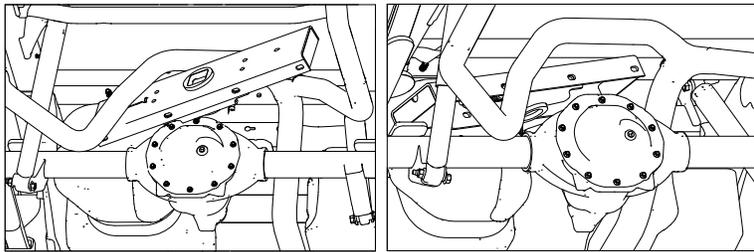

Figure B3: View looking up over axle. Figure B4: View looking up over axle.
2. **Install center section.** Starting behind the differential under the truck, hold the center section so that the top of the center section is facing towards the back of the truck and the latch pin handle is on the driver side, see Figure B3. Position the center section over the differential and axle and move it towards the driver side between the frame and the axle. Move the center towards the driver side far enough that the passenger side of the center can be lifted up past the exhaust, see Figure B4. Roll and lift the center up towards the passenger side of the truck so that the top of the center is towards the bed and the passenger side of the center is over the exhaust. Lift the driver side of the center up and forward so that it is positioned over the fuel tank.